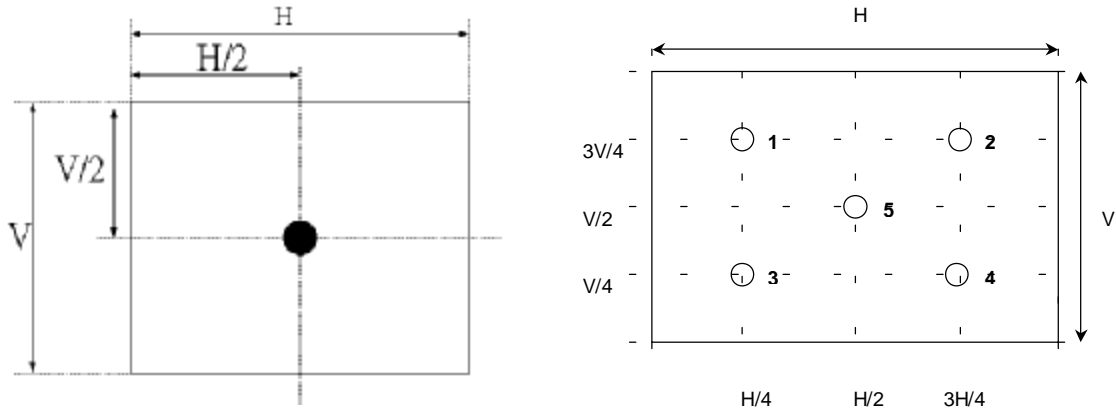

Fig.4-2 Optical measurement point
2. Surface luminance is luminance value at point 1 across the LCD surface 50cm from the surface with all pixels displaying white. From more information see Fig. 4-2. When $V_{DDB} = 24V$, $I_{DDB} = (6.3A)$.